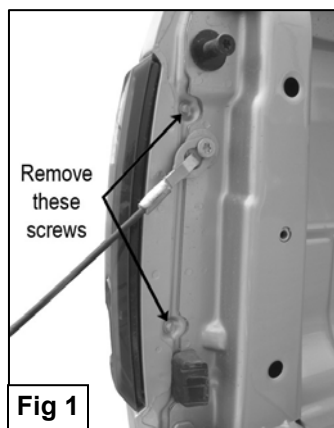

Fig 1
3. Open the tail gate and remove the screws holding the taillight (**Figure 1**).